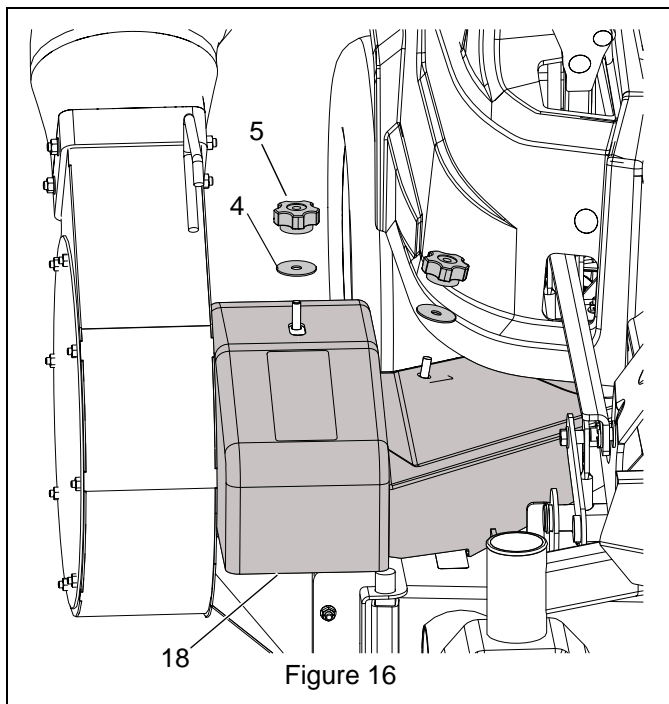

Figure 16
2. Position belt cover (item 18) over deck and idler assembly and secure with two 3/8 x 1 1/2" flat washers (item 4) and two clamping knobs (item 5). See Figure 16.
5. Remove belt cover from mower deck and blower and idler assembly. See Figure 16.